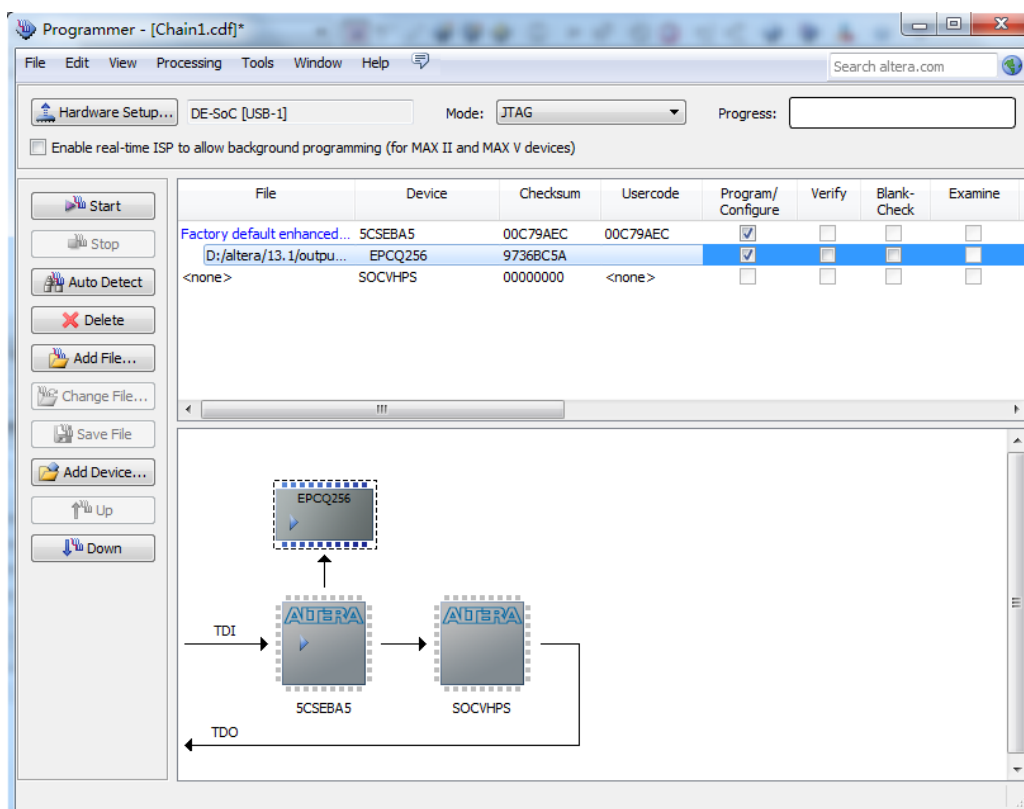

Figure 8-7 Quartus II programmer window with one .jic file
5. Program the EPCQ device by clicking the corresponding **Program/Configure** box. A factory default SFL image will be loaded, as shown in **Figure 8-7**.